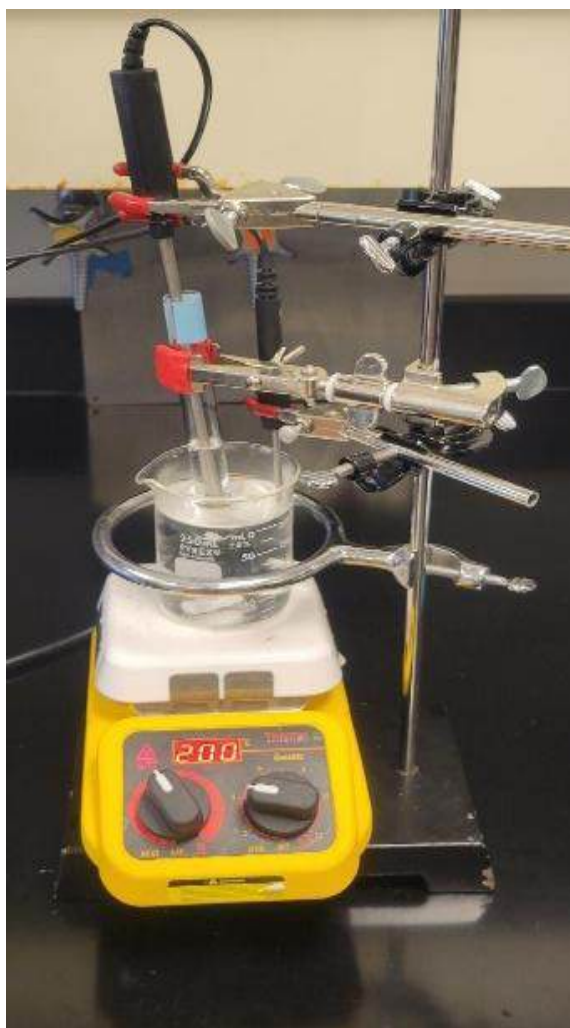

Figure 1. Beaker-heating apparatus
1. Secure both of your test tube racks and at least nine (9) 30-mL test tubes and ensure that they are free of any cracks. Clean all nine test tubes with a test tube brush (located in your bench top drawer) and soapy water. Rinse the test tubes thoroughly with distilled water and place them back in your test tube rack on the pegs to dry. Three (3) tubes are used in Part 1 and six (6) in Part 2.
2. Using Figure 1 as a guide, construct the beaker-heating apparatus with the 250-mL beaker in the center of the large ring support. Carefully construct the apparatus under the prepositioned fume snorkel as shown. DO NOT move the fume snorkel. Notify the instructor if the fume snorkel is out of position. Secure the **large** thermistor with a small 3-pronged clamp and place it **in the test tube** (be careful not to let the thermistor touch the glass). Secure the **small** thermistor with another small 3-pronged clamp and place it **in the beaker** to monitor water temperature. The test tube should be clamped with a medium test tube clamp. Set up your Vernier LabQuest Mini with a “Temperature vs Time” program as shown in Appendix A. Ensure you set the duration of the experiment to **600 seconds**.